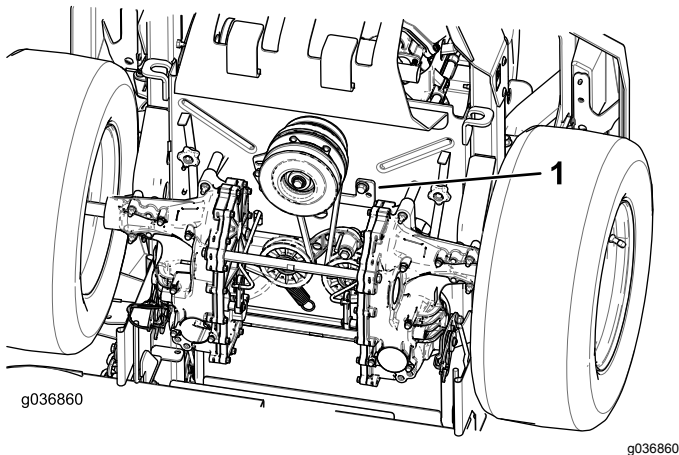

Figure 101
5. Remove the clutch stop (Figure 101).
9. Install the clutch stop (Figure 101).